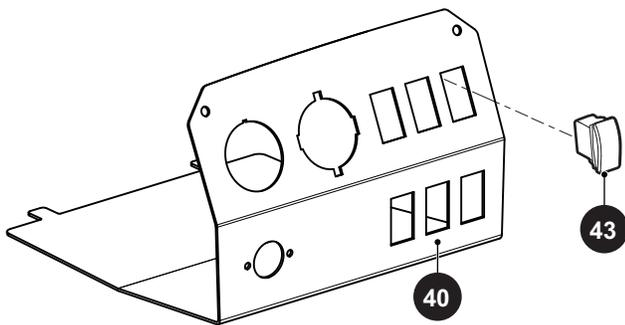

Fig. 18 Rocker Switch
4. Squeeze the tabs on the top and bottom of the backside of the rocker switch (43) and push it through the front of the gauge panel (40) (Ref. Fig. 18).